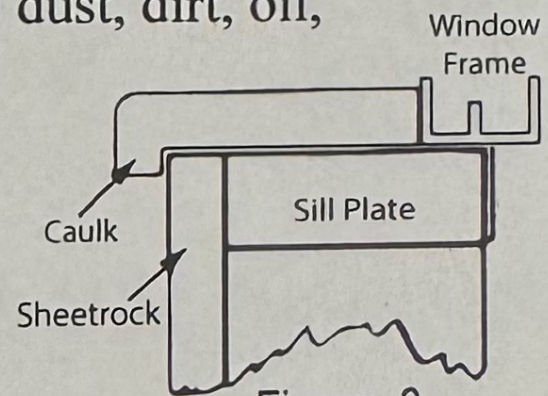

Figure 3.
3. Rough opening area must be free of all dust, dirt, oil, grease and loose particles. Window sill can sit flush or extend past the face of the gypsum board. Exposed ends should be covered with latex caulk as shown in Figure 3.